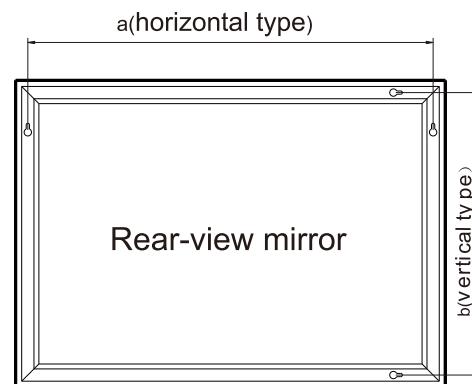

Fig. 2
1. Make certain the wall is solid, and use the flexible rule to measure the center distance between two hardy holes on the mirror frame ("a" and "b" in Fig. 2).
2. Use the flexible rule to measure the center distance between two hardy holes on the wall ("a" and "b" in Fig. 2), and mark them out with a pencil.